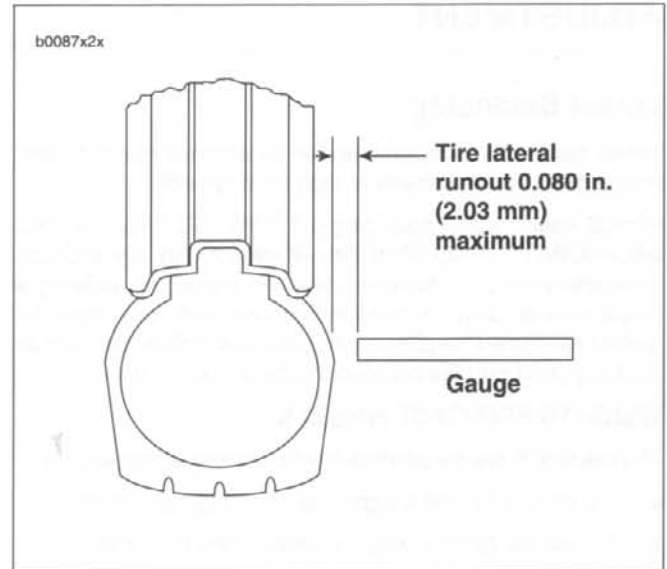

Figure 2-23. Checking Tire Lateral Runout
1. See Figure 2-23. Turn wheel on axle and measure amount of displacement from a fixed point to tire sidewall.